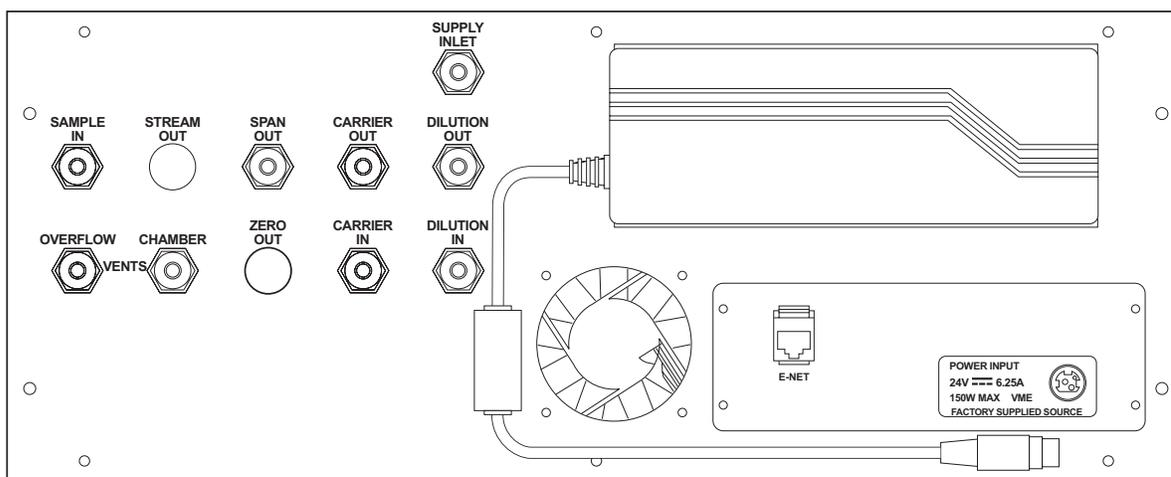

Figure 3 Dynacalibrator 345 Rear Panel
All Model 345 Dynacalibrators are equipped with a supply inlet fitting. **(Figure 3)** Since there is no internal pump, the supply inlet must be connected to an external pressurized source of carrier and dilution gas such as an external pump, a cylinder of compressed gas, etc. The most commonly used gas is dry air; however, dry nitrogen may also be used.
2. Remove caps from the SUPPLY INLET, SPAN OUT, and OVERFLOW VENT ports on the rear panel. (**Figure 3**)
3. Connect the clean, dry, regulated supply gas source (25 psig min, 50 psig max) to the carrier inlet on the rear panel. (**Figure 3**) The supply gas regulator must be able to source the maximum dilution flow, which may be as high as 20 SLPM.